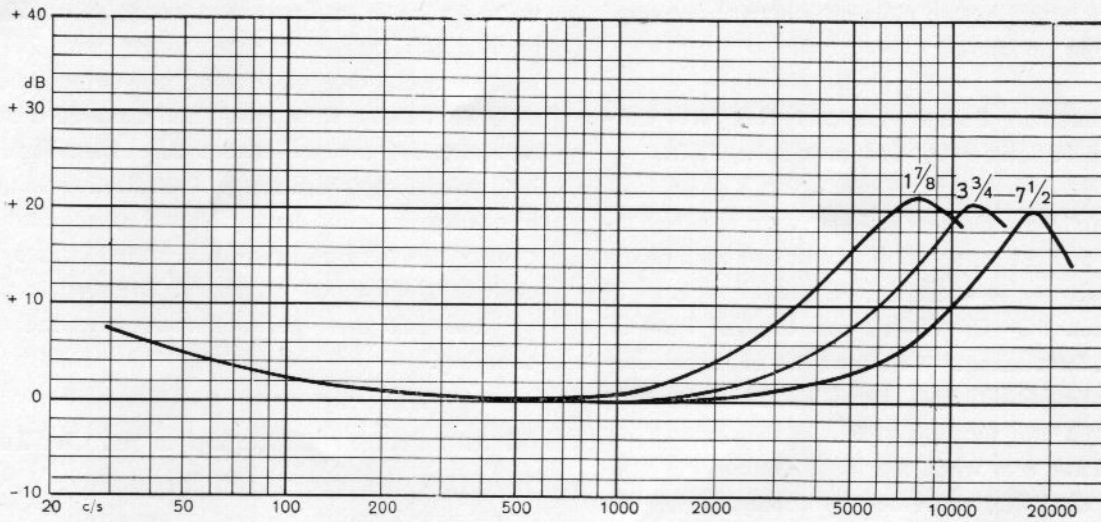
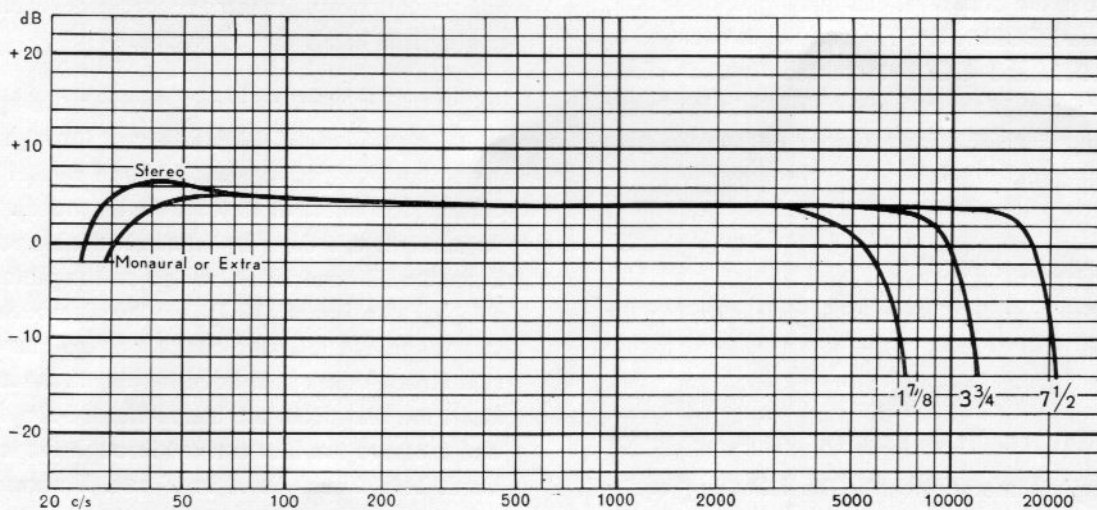

Fig. 3.
Fig. 5.
The decrease in gap width has made it possible to change to 100  $\mu$ S playback equalization curve at 3  $\frac{3}{4}$  ips and 250  $\mu$ S at 1  $\frac{7}{8}$  ips and yet increase the frequency response. The redesigning of the head together with the two potentiometers R21 and R21B has reduced the Q value of the head and decreased the resonance peak both in playback and recording. The decrease in Q value is wanted in playback because the reduced gap reduces the playback losses. To obtain correct preemphasis in recording position, a resonant circuit has been introduced in the feed back loop in recording position. This resonant circuit (L5—C9) is placed in the cathode of the first triode of ECC83 and is tuned to approx. 18 000 c/s at 7  $\frac{1}{2}$  ips. By means of C9B and C9C this peak is changed to approx. 12 000 c/s and 8 600 c/s at 3  $\frac{3}{4}$  ips and 1  $\frac{7}{8}$  ips respectively. By means of the core in L5 minor corrections at the high frequency response can be made. Fig. 3 and 4 shows the frequency response of the record and playback amplifiers at different speeds. Fig. 5 shows the total frequency response of the Recorder.
2. Adjust the oscillator frequency rejector circuit L1 (27.1). See photographs S.M. Fig. 17 and 18 and schematic S.M. Fig. 5. The V.T.V.M. is attached to point P in schematic S.M. Fig. 20 and should indicate about 5 volts when the circuit is adjusted for minimum.
2. The frequency response curve of the recording amplifier. In the position for recording, the frequency response of the upper track amplifier is changed by changing the speed. Drive the amplifier with a voltage corresponding to 20 dB below maximum recording level. The response curves should be as shown in Fig. 3, curves  $7\frac{1}{2}$ ,  $3\frac{3}{4}$  and  $1\frac{7}{8}$ . The response is checked at all three speeds. The sensitivity at 1000 c/s should be between 100 and 200 mV across the input terminals in back of the recorder, when the voltage across 1000 ohms in series with the head is 90 to 110 mV and the volume is set to max.
The above comparisons apply to the  $7\frac{1}{2}$  ips speed since the equalization curves at this speed are unchanged. At  $3\frac{3}{4}$  ips and  $1\frac{7}{8}$  ips a much greater improvement in noise level is obtained by changing the playback equalization curves. As will be seen from Fig. 3 improvement has to a certain extent increased the risk of overloading the tape at the higher frequencies. One disadvantage with the Model 5 compared with the Model 3 Stereo is that the Model 5 requires a better adjustment of the tape path, and therefore faults may be caused by improper tape transport. Another difficulty is the erasing in STEREO position. There is a rather critical balance between sufficient erasure and unwanted erasure